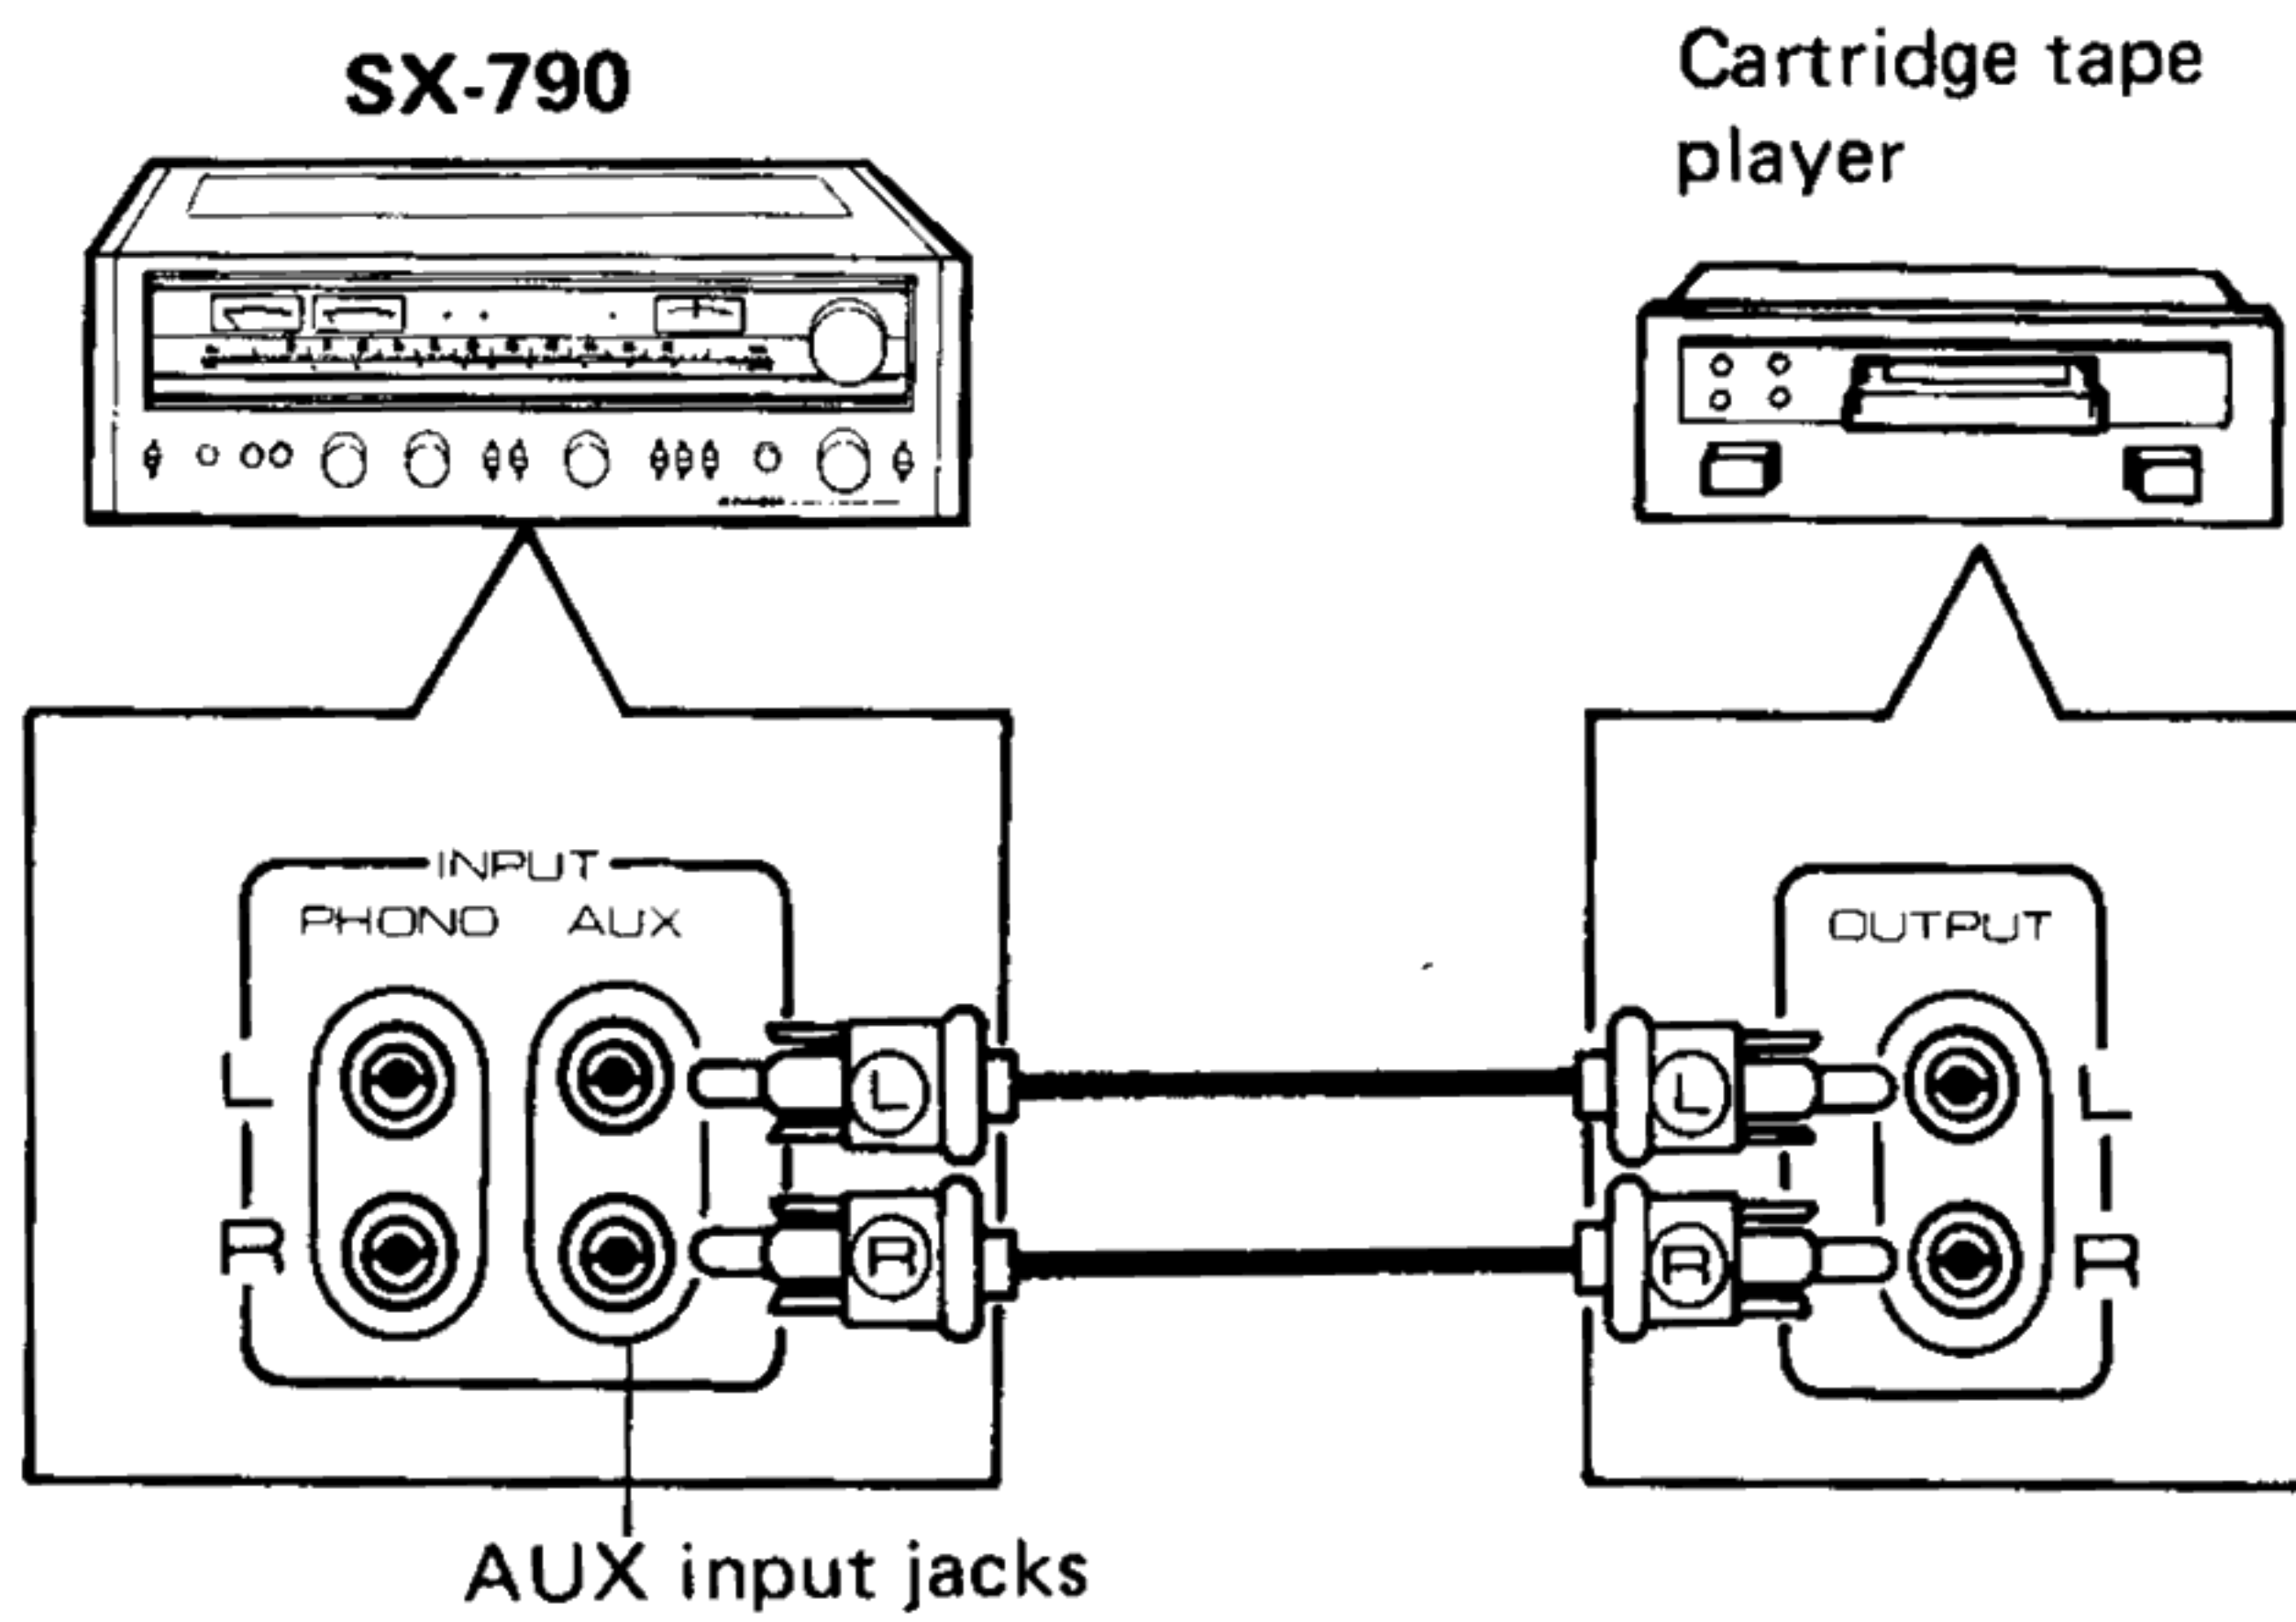

Fig. 3
You can connect an 8-track cartridge tape player, TV tuner, second tuner, or tape-deck playback output to these jacks. Be sure to connect both left channel (L) and right channel (R) correctly (Fig. 3).